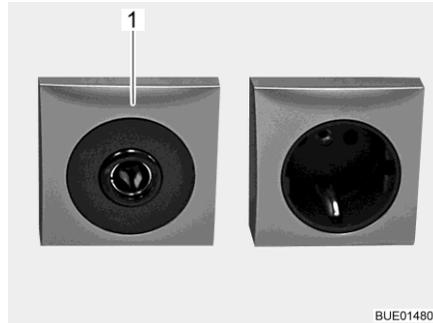

Fig. 107 12 V/10 A socket
- ▷ Only connect devices with a maximum of 10 A to the sockets (Fig. 107,1) of the 12 V power supply.